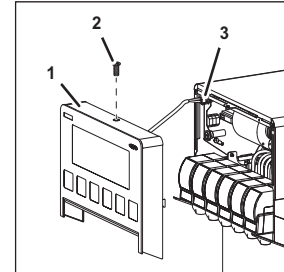

Fig. 34
1. Remove the fastening bolt (Fig. 34/2) from the promotional panel (Fig. 34/1).
2. To the extent permitted by the electrical cables, lift the promotional panel (Fig. 34/1) from the unit.
3. Disconnect the plug (Fig. 34/3) of the electrical cables (cable no. 2) of the key switch.
4. Connect the plug (Fig. 34/3) of the electrical cables (cable no. 2) of the key switch.
5. Position the new promotional panel (Fig. 34/1) on the unit.
6. Attach the promotional panel (Fig. 34/1) on the unit using the fastening bolt (Fig. 34/2).